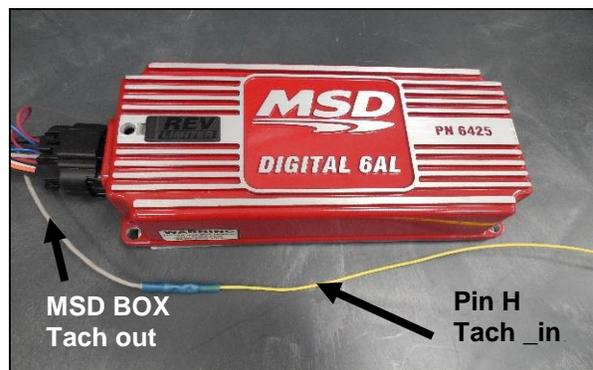

Figure 19 – C/D BOX (MSD 6AL Shown)
- C/D Ignition Box Tach output (MSD 6AL shown - Fig. 19)